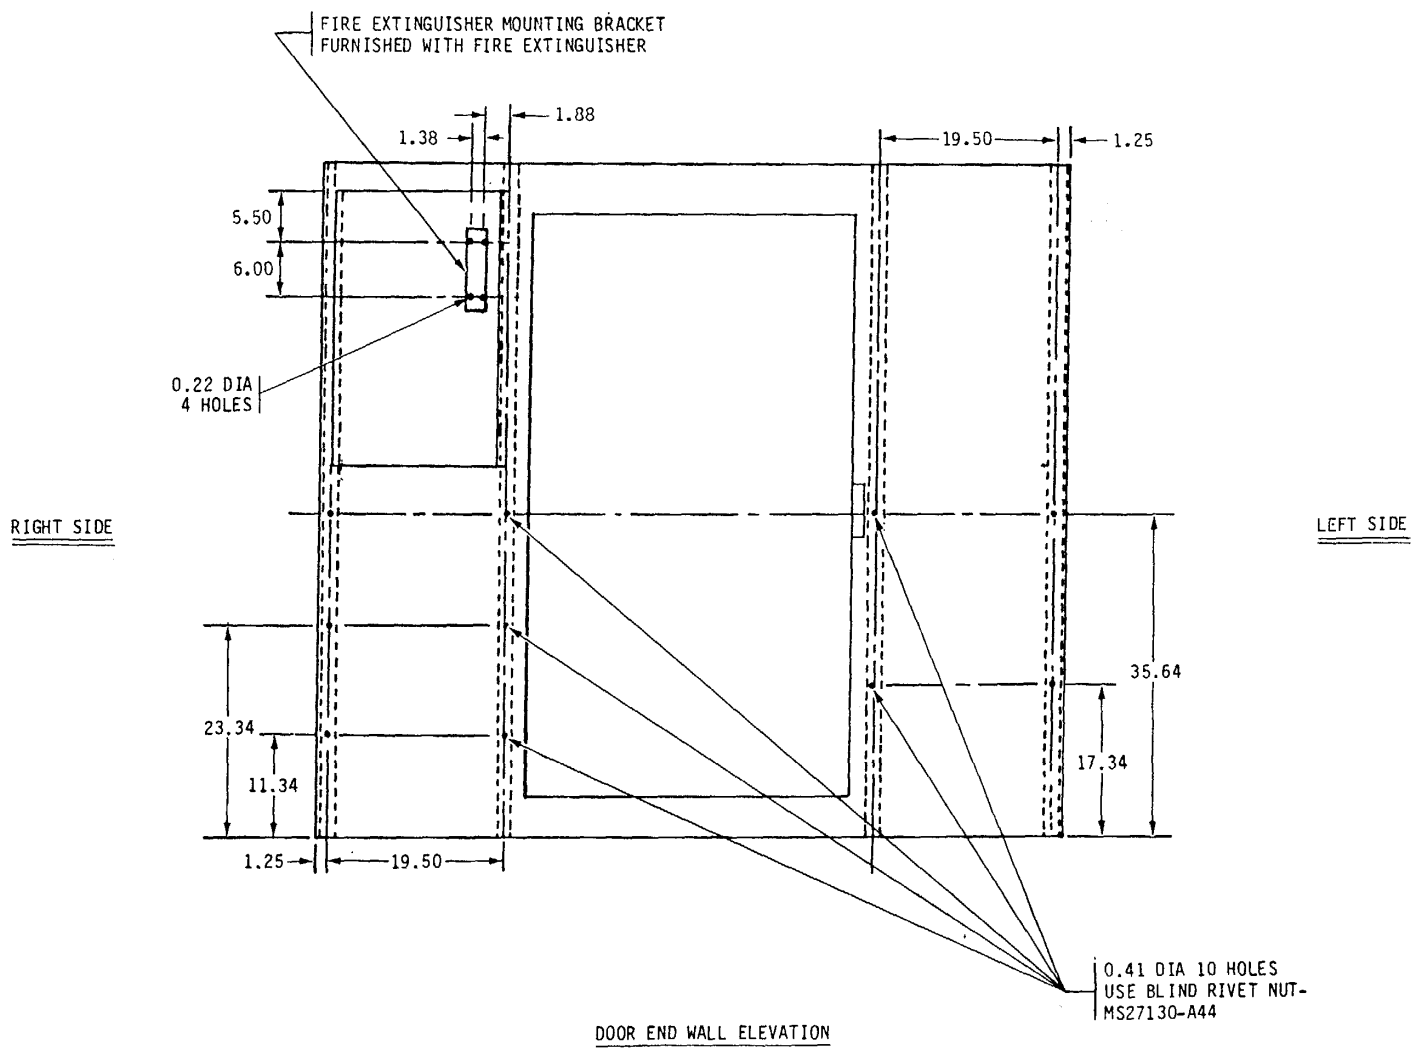
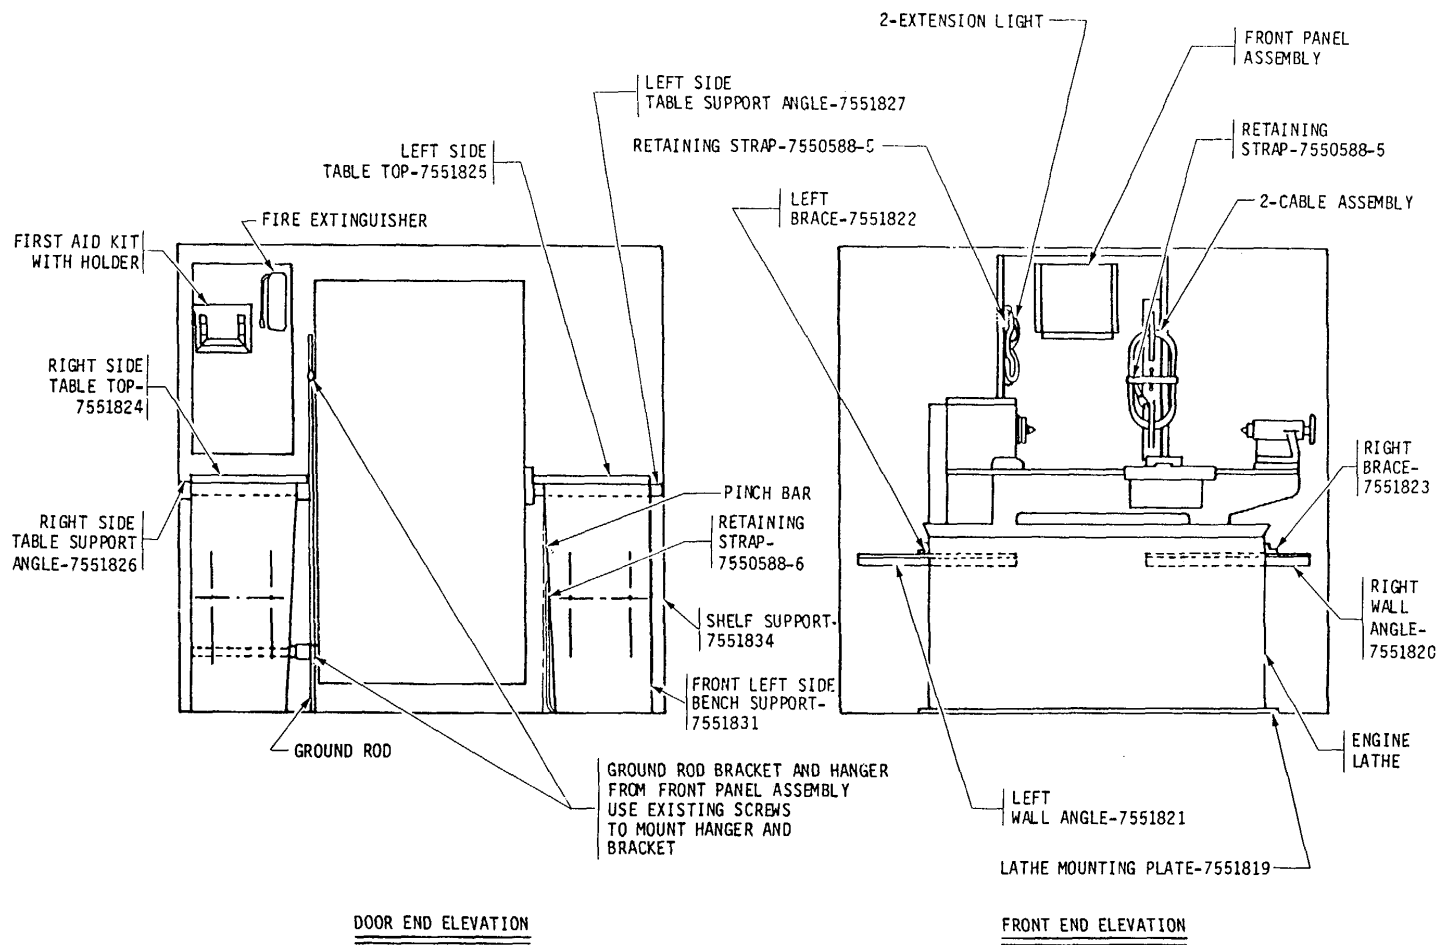

Figure 8. Blind rivet nut installation in door end wall, unit 1, 280.
Figure 10. Components to be mounted, door and front end elevations, unit 1, 280.
(20) Position pinch bar (5120-00224-1384) inside door to right by shelf support (7551834). (See figure 10.). Secure pinch bar, using a 12-in. retaining strap (7550588-6). Pass the retaining strap around the shelf support.
(21) Position mounting bracket of fire extinguisher (4210-00-555-8837) on existing rear right wall sheet metal bracket in accordance with figure 8. Mark and drill four 0.22-in. diameter holes through both brackets being careful not to puncture the inner wall, in accordance with figure 8. Secure fire extinguisher bracket, using four #10 x 5/8-in. pan head machine screws (MS35206-264), four #10 lockwashers (MS35338-43), and four #10 hex nuts (MS35649-202). Install fire extinguisher in mounting bracket (fig. 10).
(22) Position first aid kit (6545-00-922-1200) in existing holder on rear wall in accordance with figure 10.